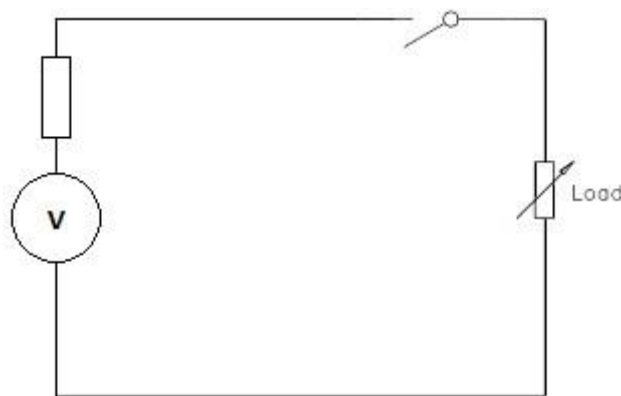

Figure 71
1. A simple generator circuit diagram is shown below in Figure 71.